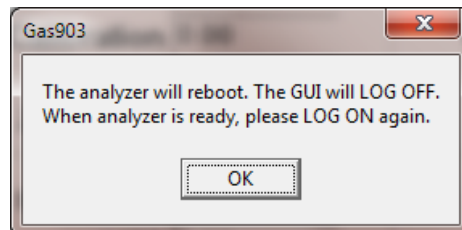

Figure 5-5: Reboot Dialog Box
- *Reboot* - accesses the dialog box shown in Figure 5-5. Pressing the *OK* button will cause the analyzer to reset. Any changes that have not been written to the computer but not transferred to the analyzer will be lost if this option is selected. The *Reset* option is unavailable if the program is in read-only mode.